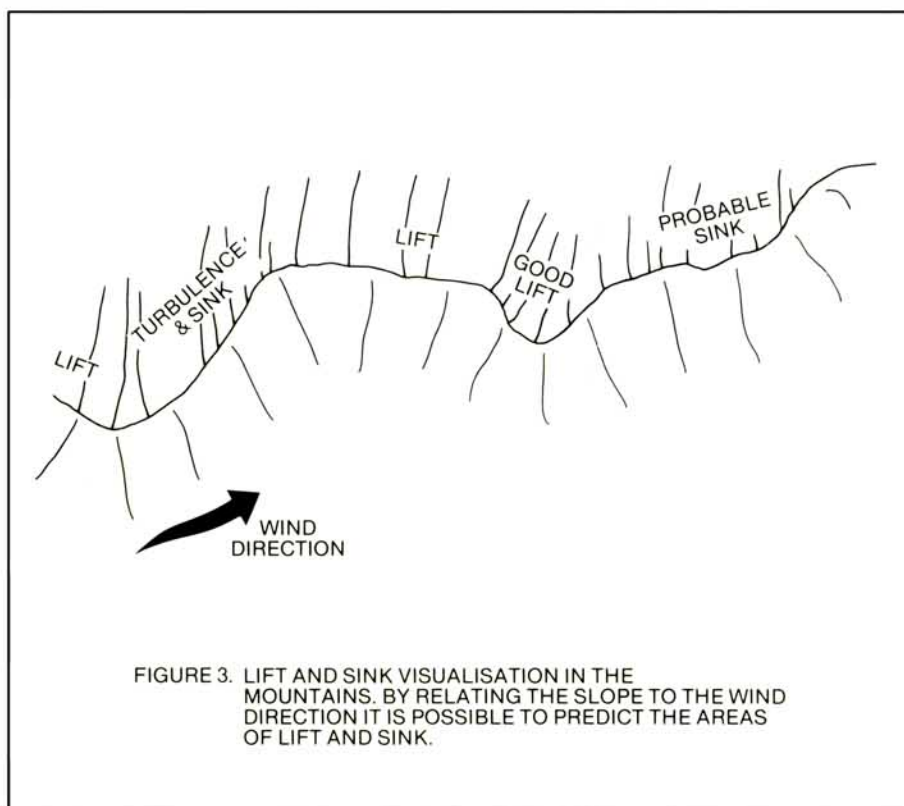

FIGURE 3. LIFT AND SINK VISUALISATION IN THE MOUNTAINS. BY RELATING THE SLOPE TO THE WIND DIRECTION IT IS POSSIBLE TO PREDICT THE AREAS OF LIFT AND SINK.
B. Refer to the diagram of the Slider (Fig. 3). The L/D Pointer is located 119 degrees counter-clockwise from the bottom of the computer scale. Substituting this value into the logarithmic equation of Step 4 gives a Glide Slope value of 32.7. Save this value for now.